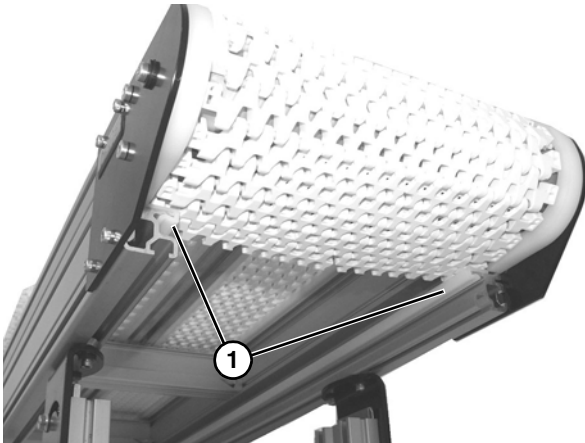

Figure 13
3. Install belt around lower frame section and above lower wear strips (**Figure 13, item 1**).